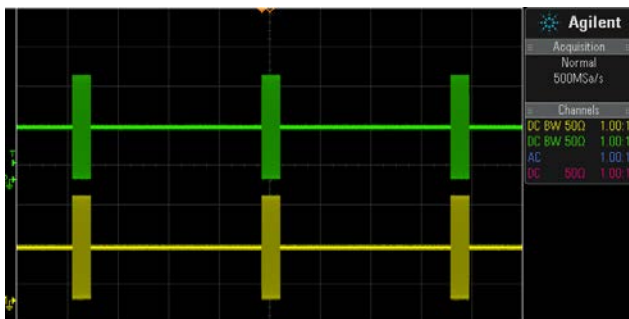

Figure 6 : Example 3 Result
- The outputs from J2 and J8 will be as shown in Figure 6